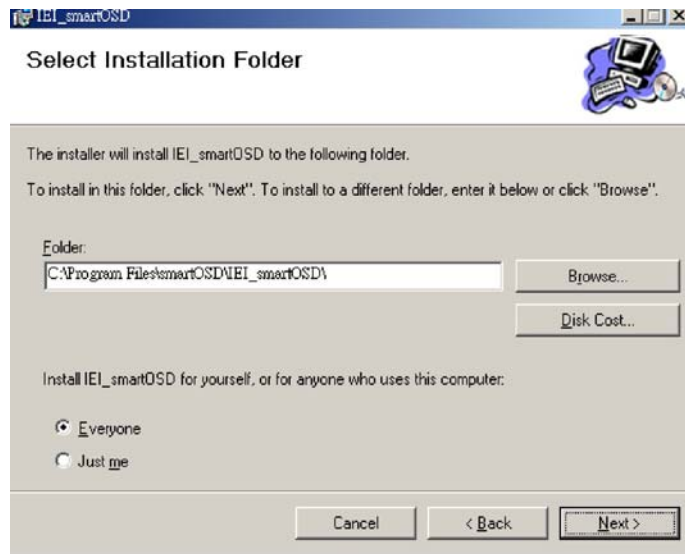

Figure 8-4: smartOSD Folder Select Screen
Step 5: The Folder Select screen in **Figure 8-4** appears.
Step 6: Select the installation folder in Figure 8-4 shown above.